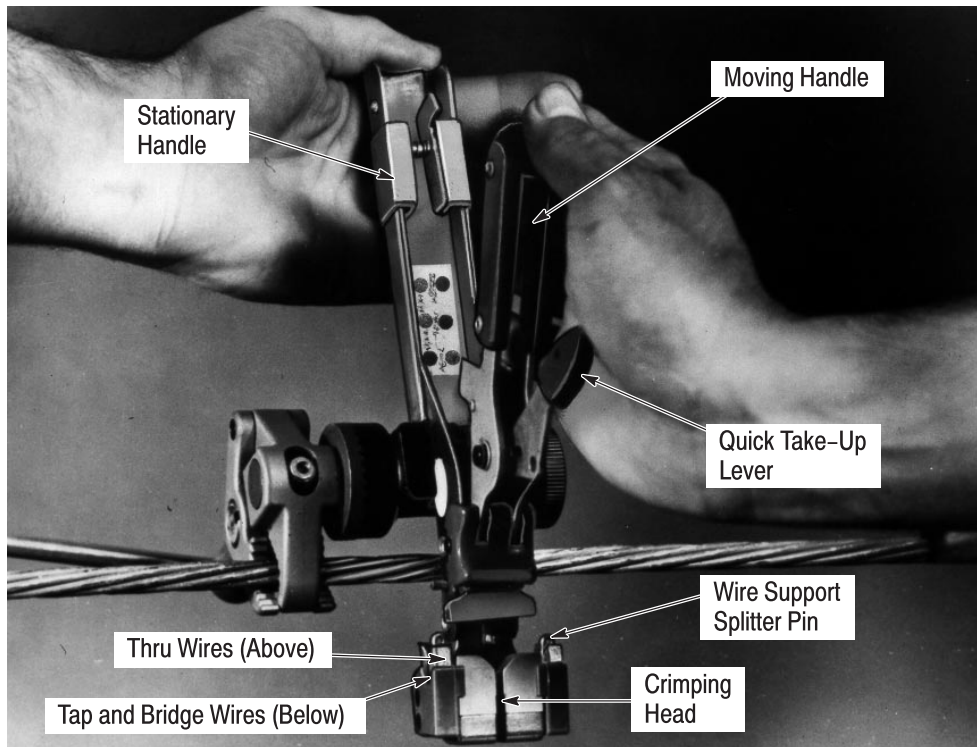

Figure 2
6. HAND TOOL OPERATION (Figure 2)
For hand tool operation using the tool holder, refer to Figure 2 and proceed as follows:
2. Support the stationary handle of the tool with one hand. Then depress the quick take-up lever and squeeze the moving handle with the other hand until the moving handle bottoms. Refer to Figure 2.